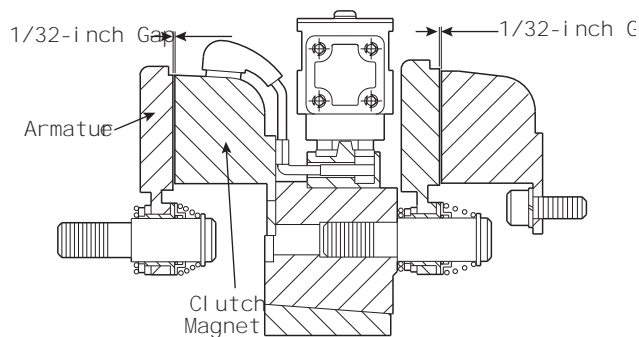

Figure 14
2. Adjust the armature's position to allow a 1/32" gap between the magnet and armature faces. (Figure 14)